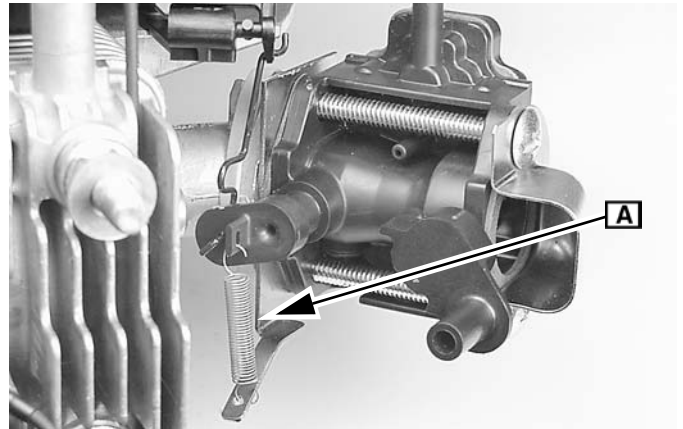

Fig. 81
6. Install governor spring (**A** Figure 81).